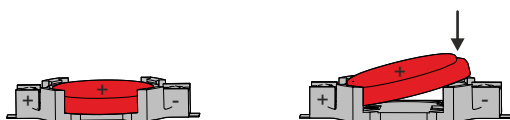

Fig. 29: C6017 _Battery change
⇒ The battery is now in an inclined position (see Fig. 29).
5. Push the protruding side of the battery into the battery holder (see Fig. 29).